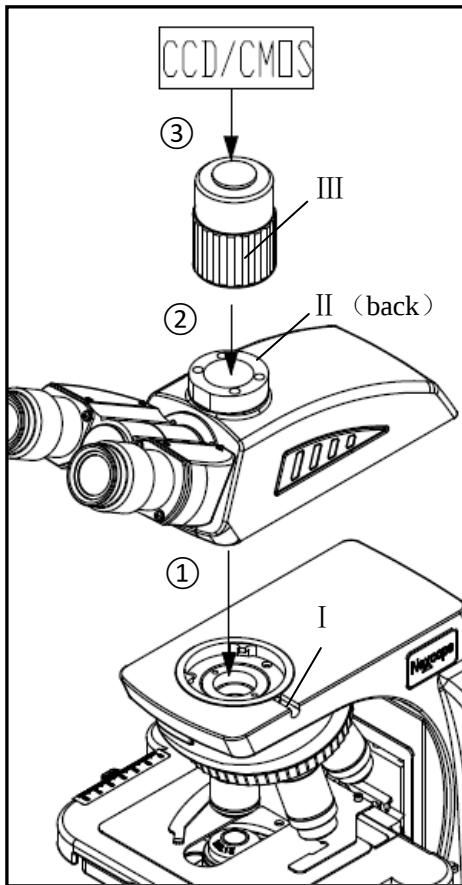

Fig.25
4.1 Installing Trinocular Viewing Head And Video Attachment (Fig.25)
1. Mount the trinocular viewing head according to the assembly path① in Fig.25 into the round dovetail of the microscope and tighten the screw I to fix the viewing head;
2. Mount the video attachment according to the assembly path② into the connecting seat of the trinocular viewing head and tighten the screw II;
3. Mount the thread interface of CCD or CMOS according to the path③ into the video attachment.